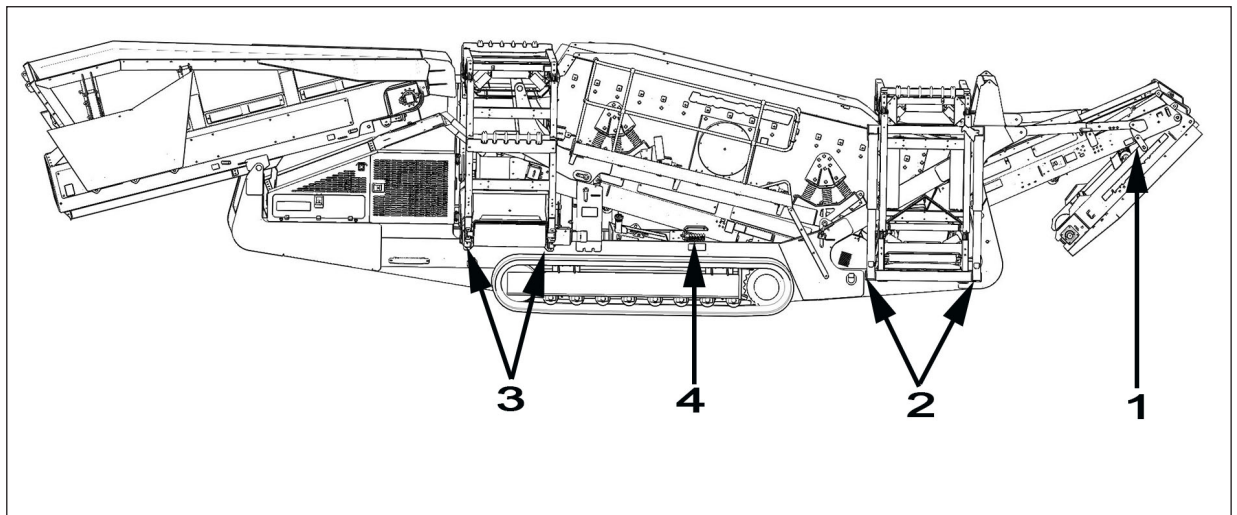

Figure 4.84 - Side and Tail Conveyor Setup
3. Remove transport stays from tail conveyor (1) see Figure 4.84.